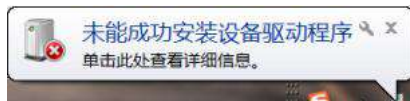

Figure 6-7 Failed to install the driver
1. Connect the upper computer and the servo drive via the USB data cable. A prompt that the driver cannot be installed automatically, as shown in Figure 6-7.